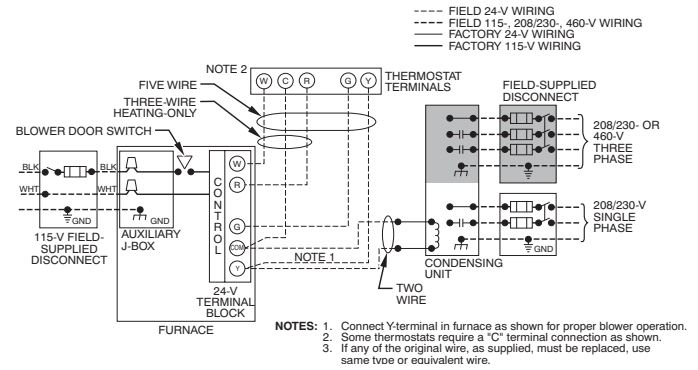

Fig. 32 – Typical Single-Stage Wiring Diagram
See Fig. 32 for field wiring diagram showing typical field 115-V wiring. Check all factory and field electrical connections for tightness. Field-supplied wiring shall conform with the limitations of 63°F (33°C) rise.
6. Connect power cord power and neutral leads to furnace power leads as shown in Fig. 32.
5. Connect field power and neutral leads to furnace power leads. as shown in Fig. 32.